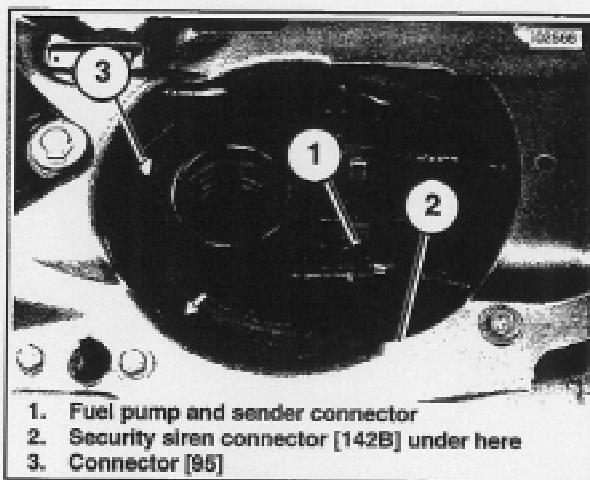

Figure 3. Locate Connector [142B] (VRSC Models) (Fuel Cap and Filler Boot Removed)
5. See Figure 3. Locate the security siren connector (2), at the end of the harness that wraps around the top of the fuel tank. This is a 3-wire connector, not to be confused with the 2-wire connector (3) tied to the harness (except California models). Disconnect the fuel pump and sender connector (1) to free the security siren connector. The protective cap and wire tie on the security siren connector can be discarded.